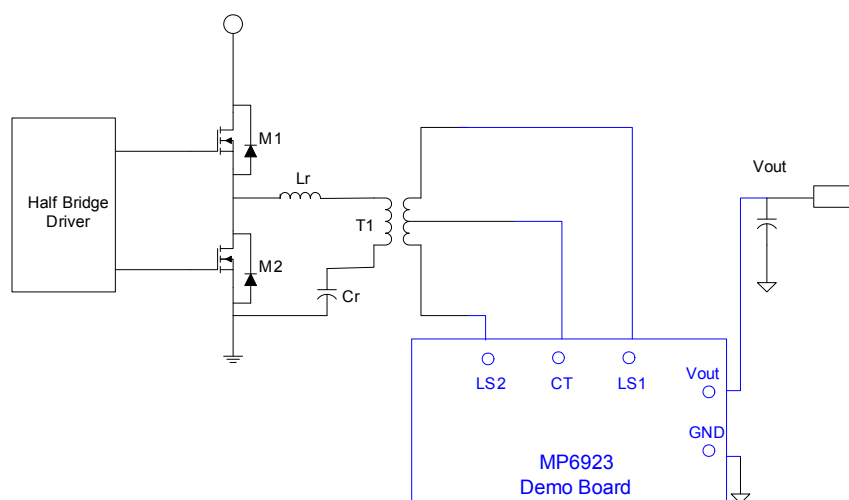

Figure 6—How to connect the EV6923-S-00A
2. Connect the center-tap and other two secondary windings of transformer as the Fig.6 shows.
3. Connect the Vout and GND pins on MP6923GS demo board as the Fig. 6 shows.